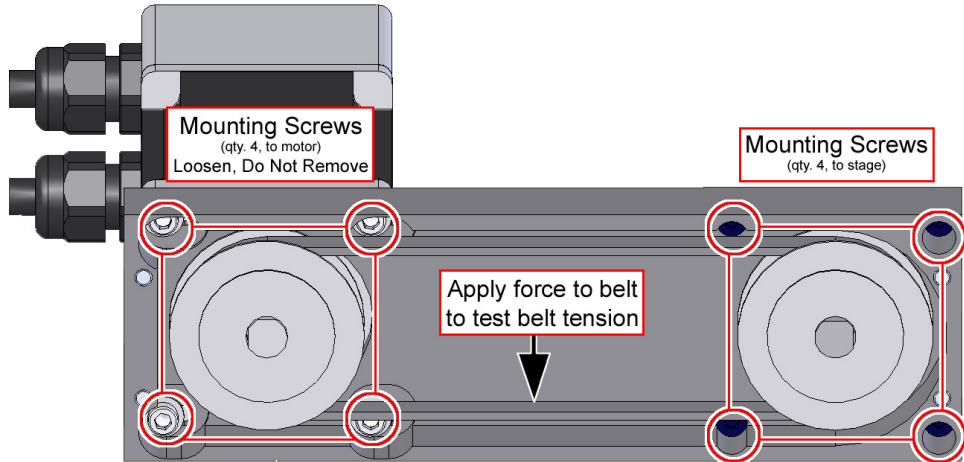

Figure 4-2: Belt Access and Adjustment on Foldback Models (Mounting Screws)
Check the belt tension when lubricating and cleaning the stage. Deflection in the belt should be less than 5 mm when applying a downward force directly between the pulleys (Figure 4-2) of approximately 5 N. If deflection exceeds this range, the belt tension should be adjusted. The method of adjustment is outlined below.
2. Remove the four mounting screws for the foldback cover (Figure 4-2).
4. If adjustment is required, loosen (but do not remove) the four motor mounting screws (Figure 4-2).